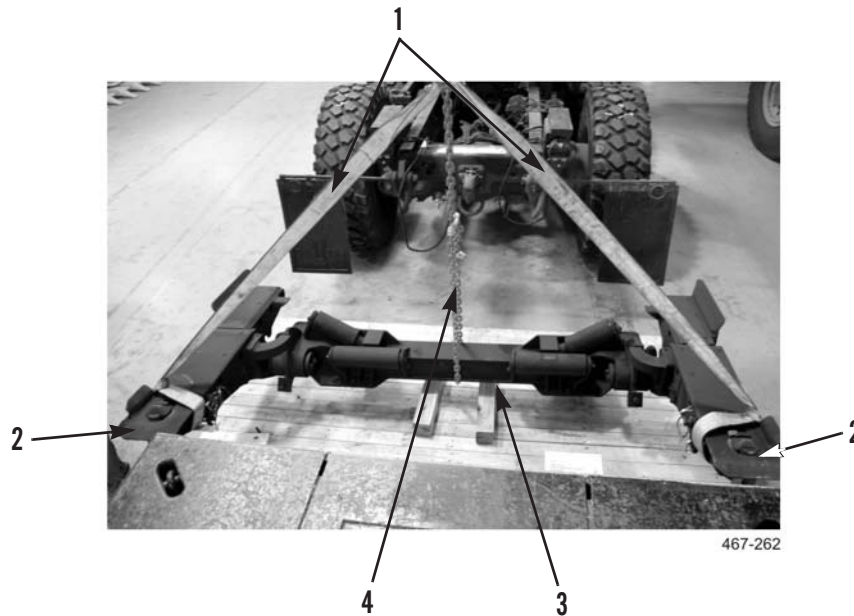

Figure 40. Slider Assembly With Straps
4. Attach sling and lifting device to slider assembly. Loop one strap (Figure 40, Item 4) around center of beam (Figure 40, Item 3) and two straps (Figure 40, Item 1) around right and left twistlocks (Figure 40, Item 2). Adjust placement of straps until slider assembly is level when raised.